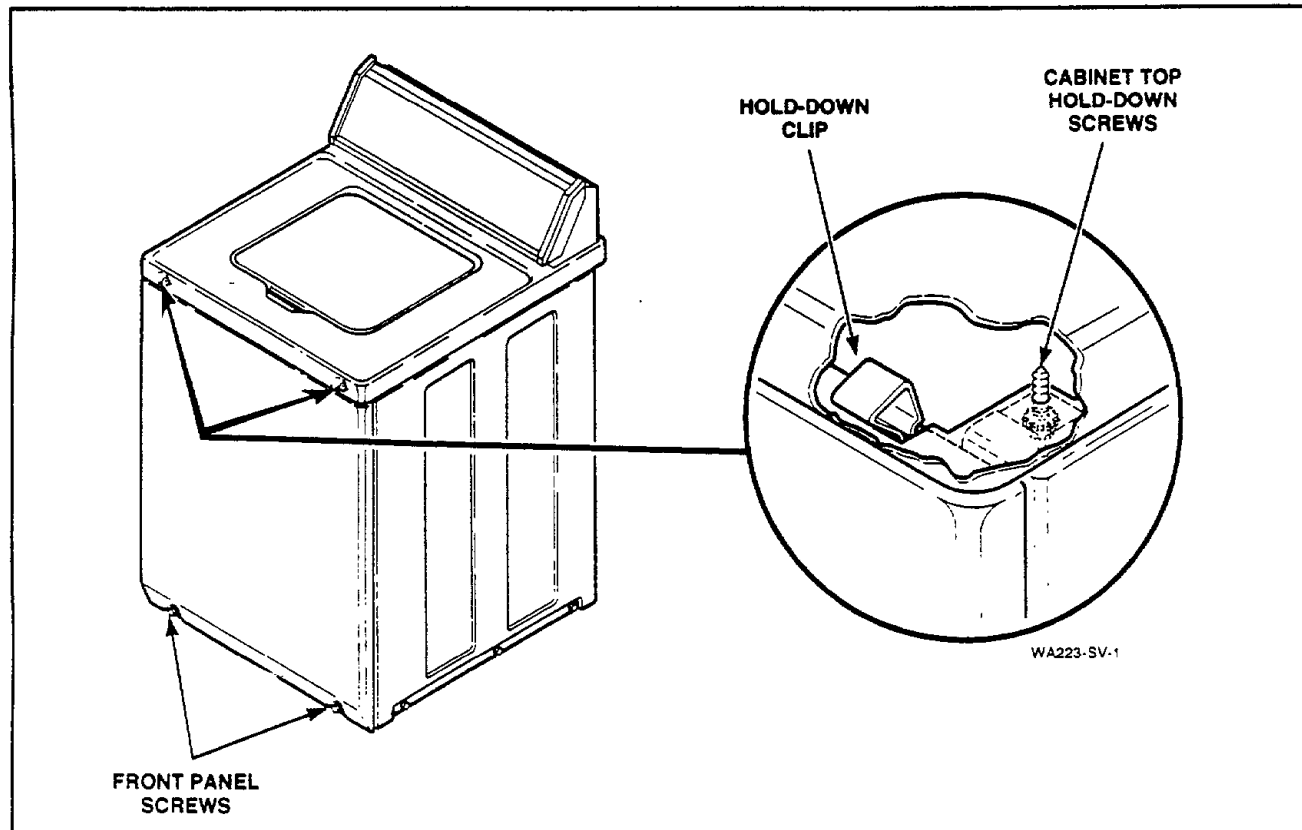

Figure 36
- Remove two screws from bottom edge of front panel, *Figure 36*.
- Pull bottom of panel away from washer until hold-down clips (located on top flange of panel) disengage from slots in cabinet top, *Figure 36*.
- Remove two cabinet top hold-down screws, *Figure 36*.